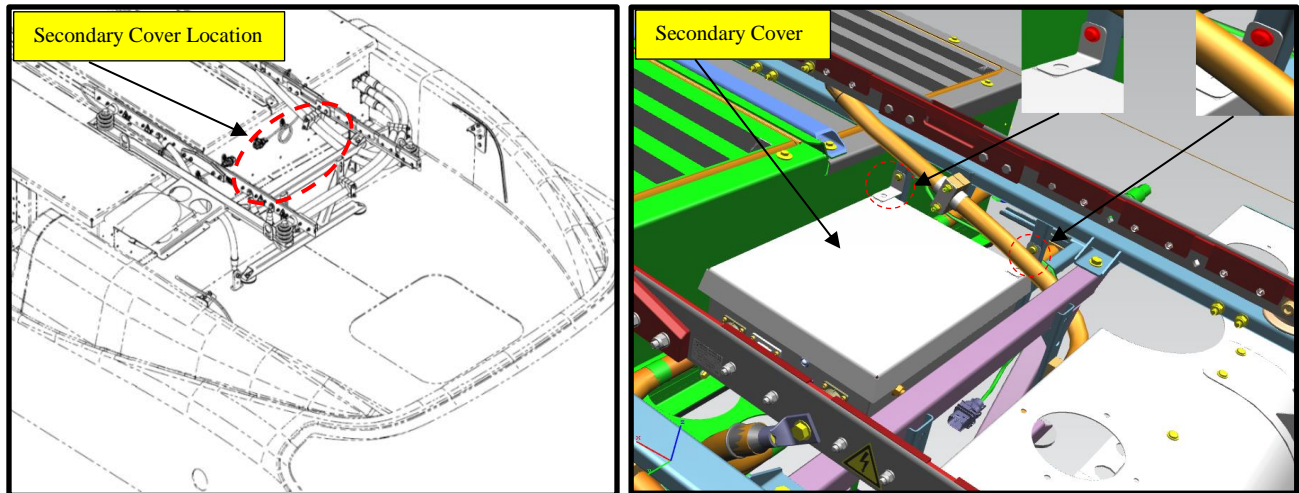

Figure 2: Charge rail secondary cover location reference.
7. Gain access to the charge rail contactor box secondary cover. See Figure 2.
9. Remove the mounting hardware in the corners of the existing secondary cover. See Figure 2.